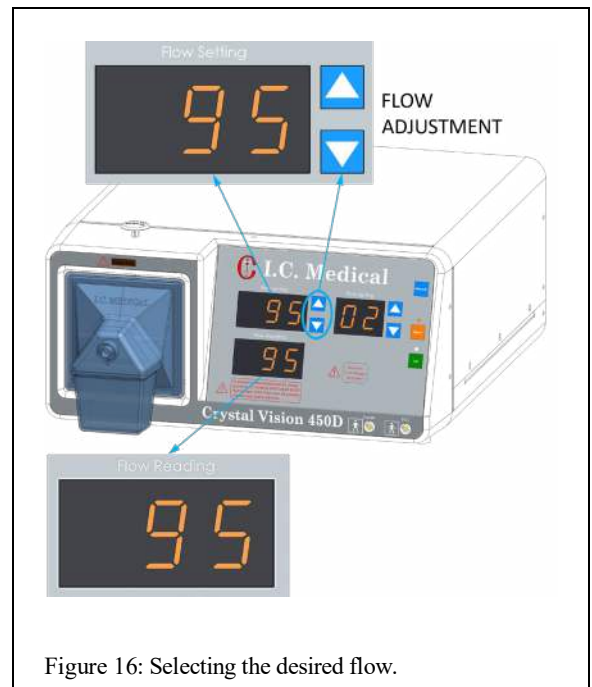

Figure 16: Selecting the desired flow.
8. FLOW SETTING control buttons (Figure 16) sets the maximum flow that is desired by the surgeon. This value is indicated on the FLOW SETTING display.
9. FLOW READING (Figure 16) is registering the amount of gas and vapor that is actually flowing at the present time. This value should be zero, when the vacuum pump is not turned on.